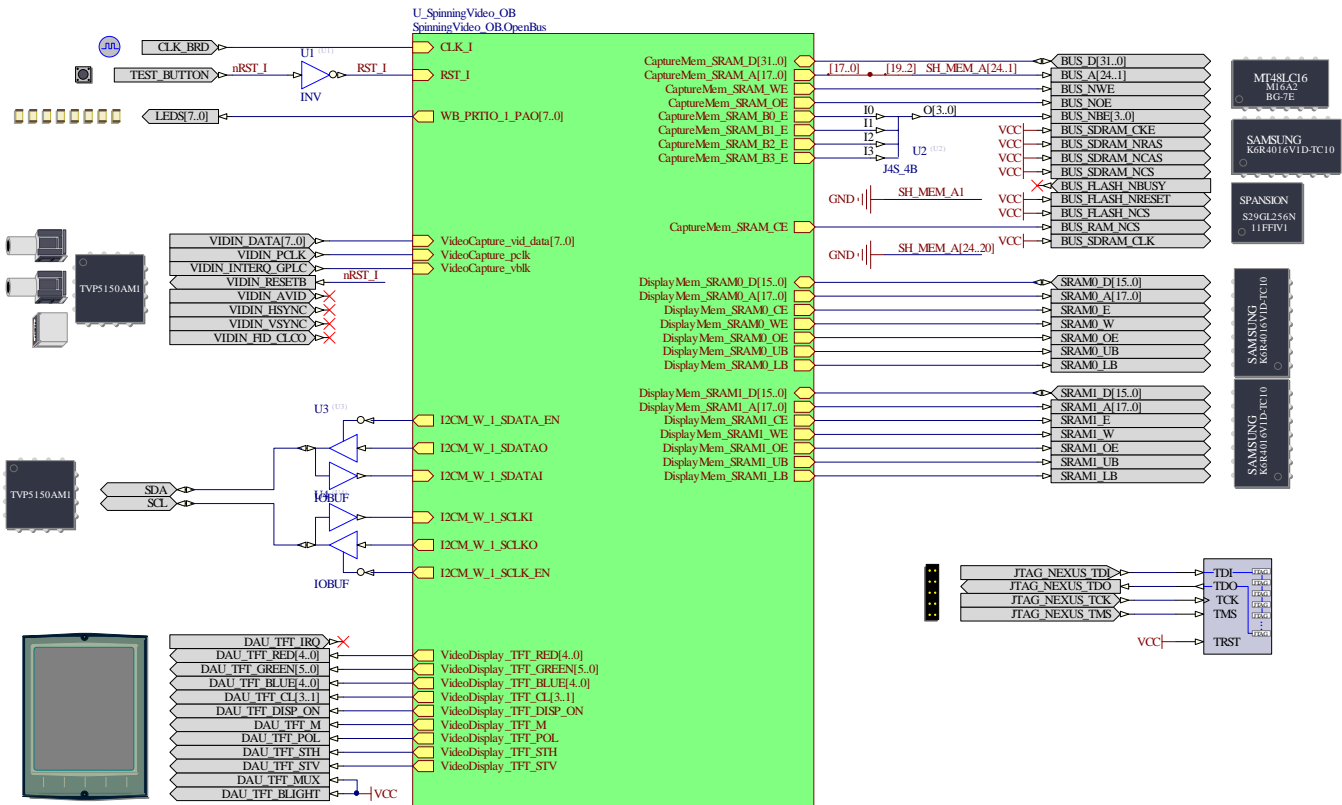

Figure 13. The Completed top-level schematicConstraining the Design
4. A completed version of the SpinningVideo_FPGA.SchDoc schematic is given in Figure 13. Use this as a guide to position the port plugin components around the sheet symbol and then reorder the sheet entries so that they will line up nicely with them.